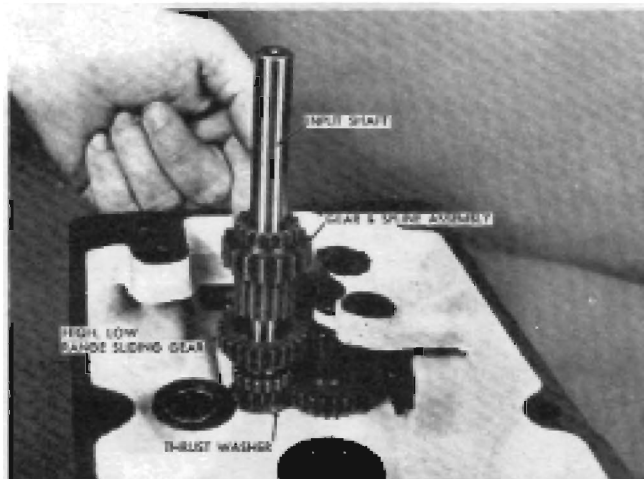

FIGURE 5
18. Remove the gear and spline assembly from the input shaft. Figure 5.
19. Remove the input shaft. Figure 5.